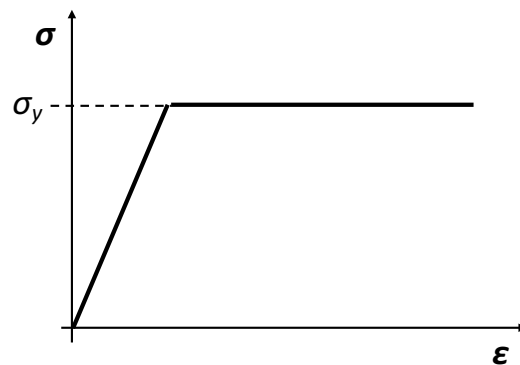

Fig. Q10
10. Fig. Q10 illustrates which type of material behaviour?